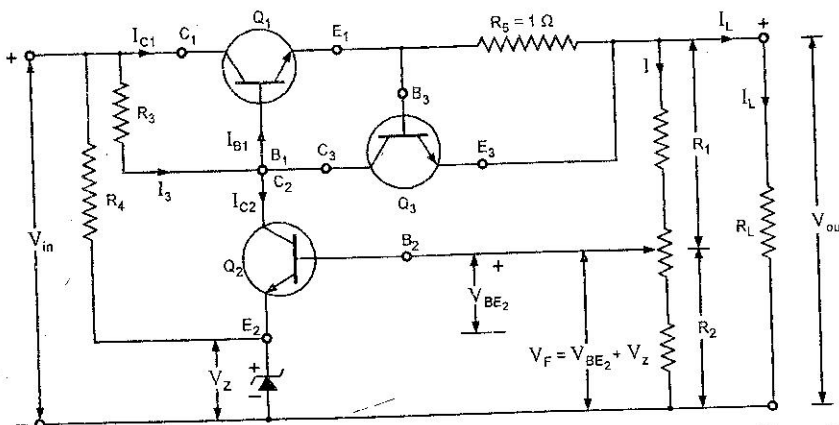
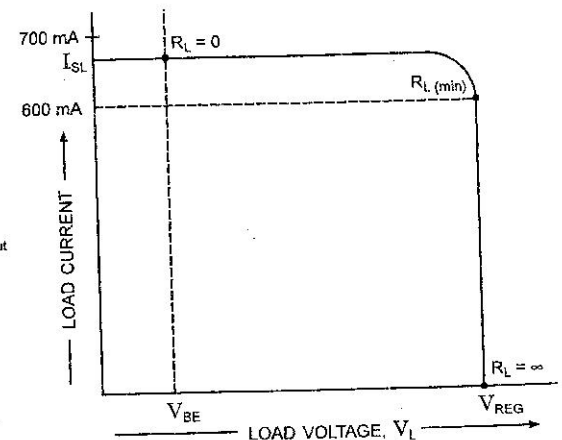
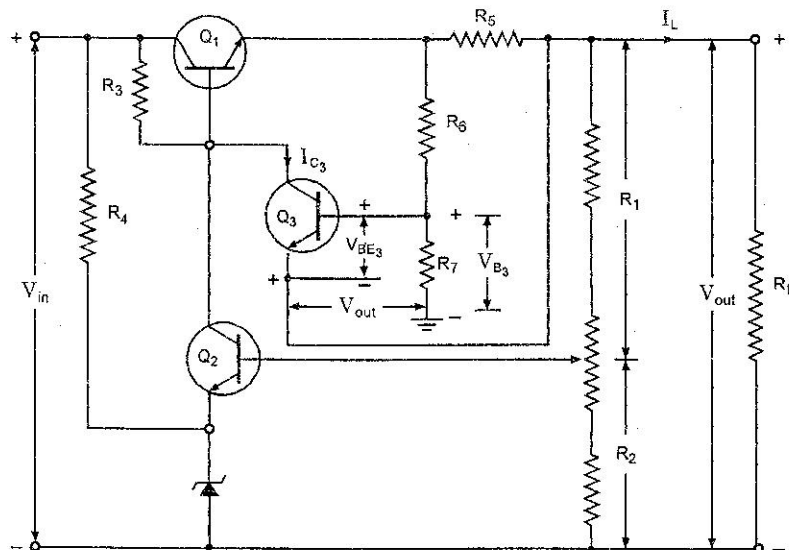

Fig. 32.7. Controlled Transistor Series Regulator With Short-Circuit Protection
Fig. 32.8
Fig. 32.9. Foldback Current Limiting Circuit
To avoid this situation, a *current limiting circuit* is added to a series regulator, as illustrated in Fig. 32.7.
Figure 32.8 summarizes the current limiting. When load resistance R_L is infinite, the output voltage is regulated and has a value of V_{REG} . The load current I_L is zero for this operating condition. When R_L decreases, the load current I_L increases up to the point where R_L becomes equal to $R_{L(min)}$. At this minimum load resistance, I_L equals 600 mA and V_{BE} equals 0.6 V. Beyond this point, transistor Q_3 turns on and the current limiting sets in. Further decrease in R_L produces decrease in output voltage, and regulation is lost. When R_L is zero, the load current I_L is limited to a value between 600 mA and 700 mA. The load current with shorted-load terminals is symbolized as I_{SL} . When the load terminals are shorted in Fig. 32.7, the voltage across resistor R_5 is
4. Foldback Current Limiting. A problem with the simple current limiting circuit just discussed is that there is a large amount of power dissipation in series pass transistor Q_1 while the regulator remains short-circuited. The foldback current limiting circuit is the solution of above problem. The circuit of a transistor series voltage regulator with foldback current limiting facility is illustrated in Fig. 32.9.
From Eq. (32.16) it is obvious that V_{BE_3} in this circuit is much more than that was in circuit illustrated in Fig. 32.7 (only $I_L R_5$). It means that the increment in load current is limited by larger amount in circuit shown in Fig. 32.9.